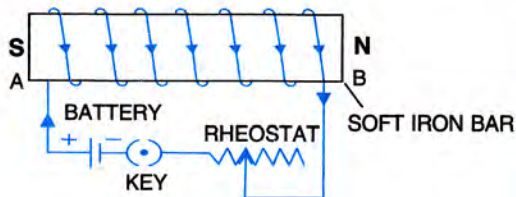

Fig. 10.15
The labelled diagram is shown in Fig. 10.15. The polarity at the **end A** where the current is clockwise, is **south (S)**, while at the **end B** where the current is anticlockwise, is **north (N)**.